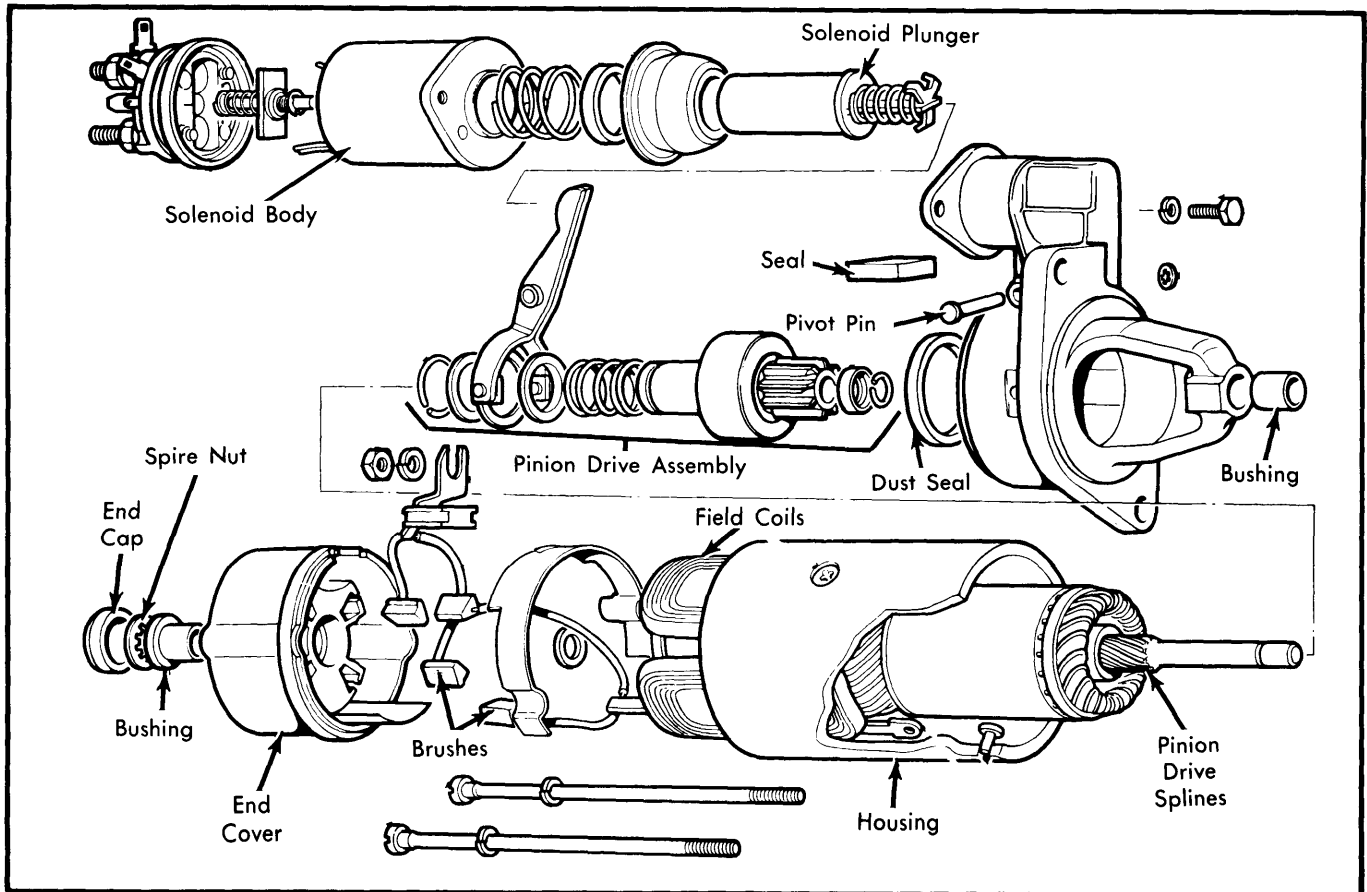

Fig. 1 Exploded View of Lucas Pre-Engaged Starter
1) Ensure that all parts are clean and reverse disassembly procedure. See Figs. 1 and 2 for assembly order.